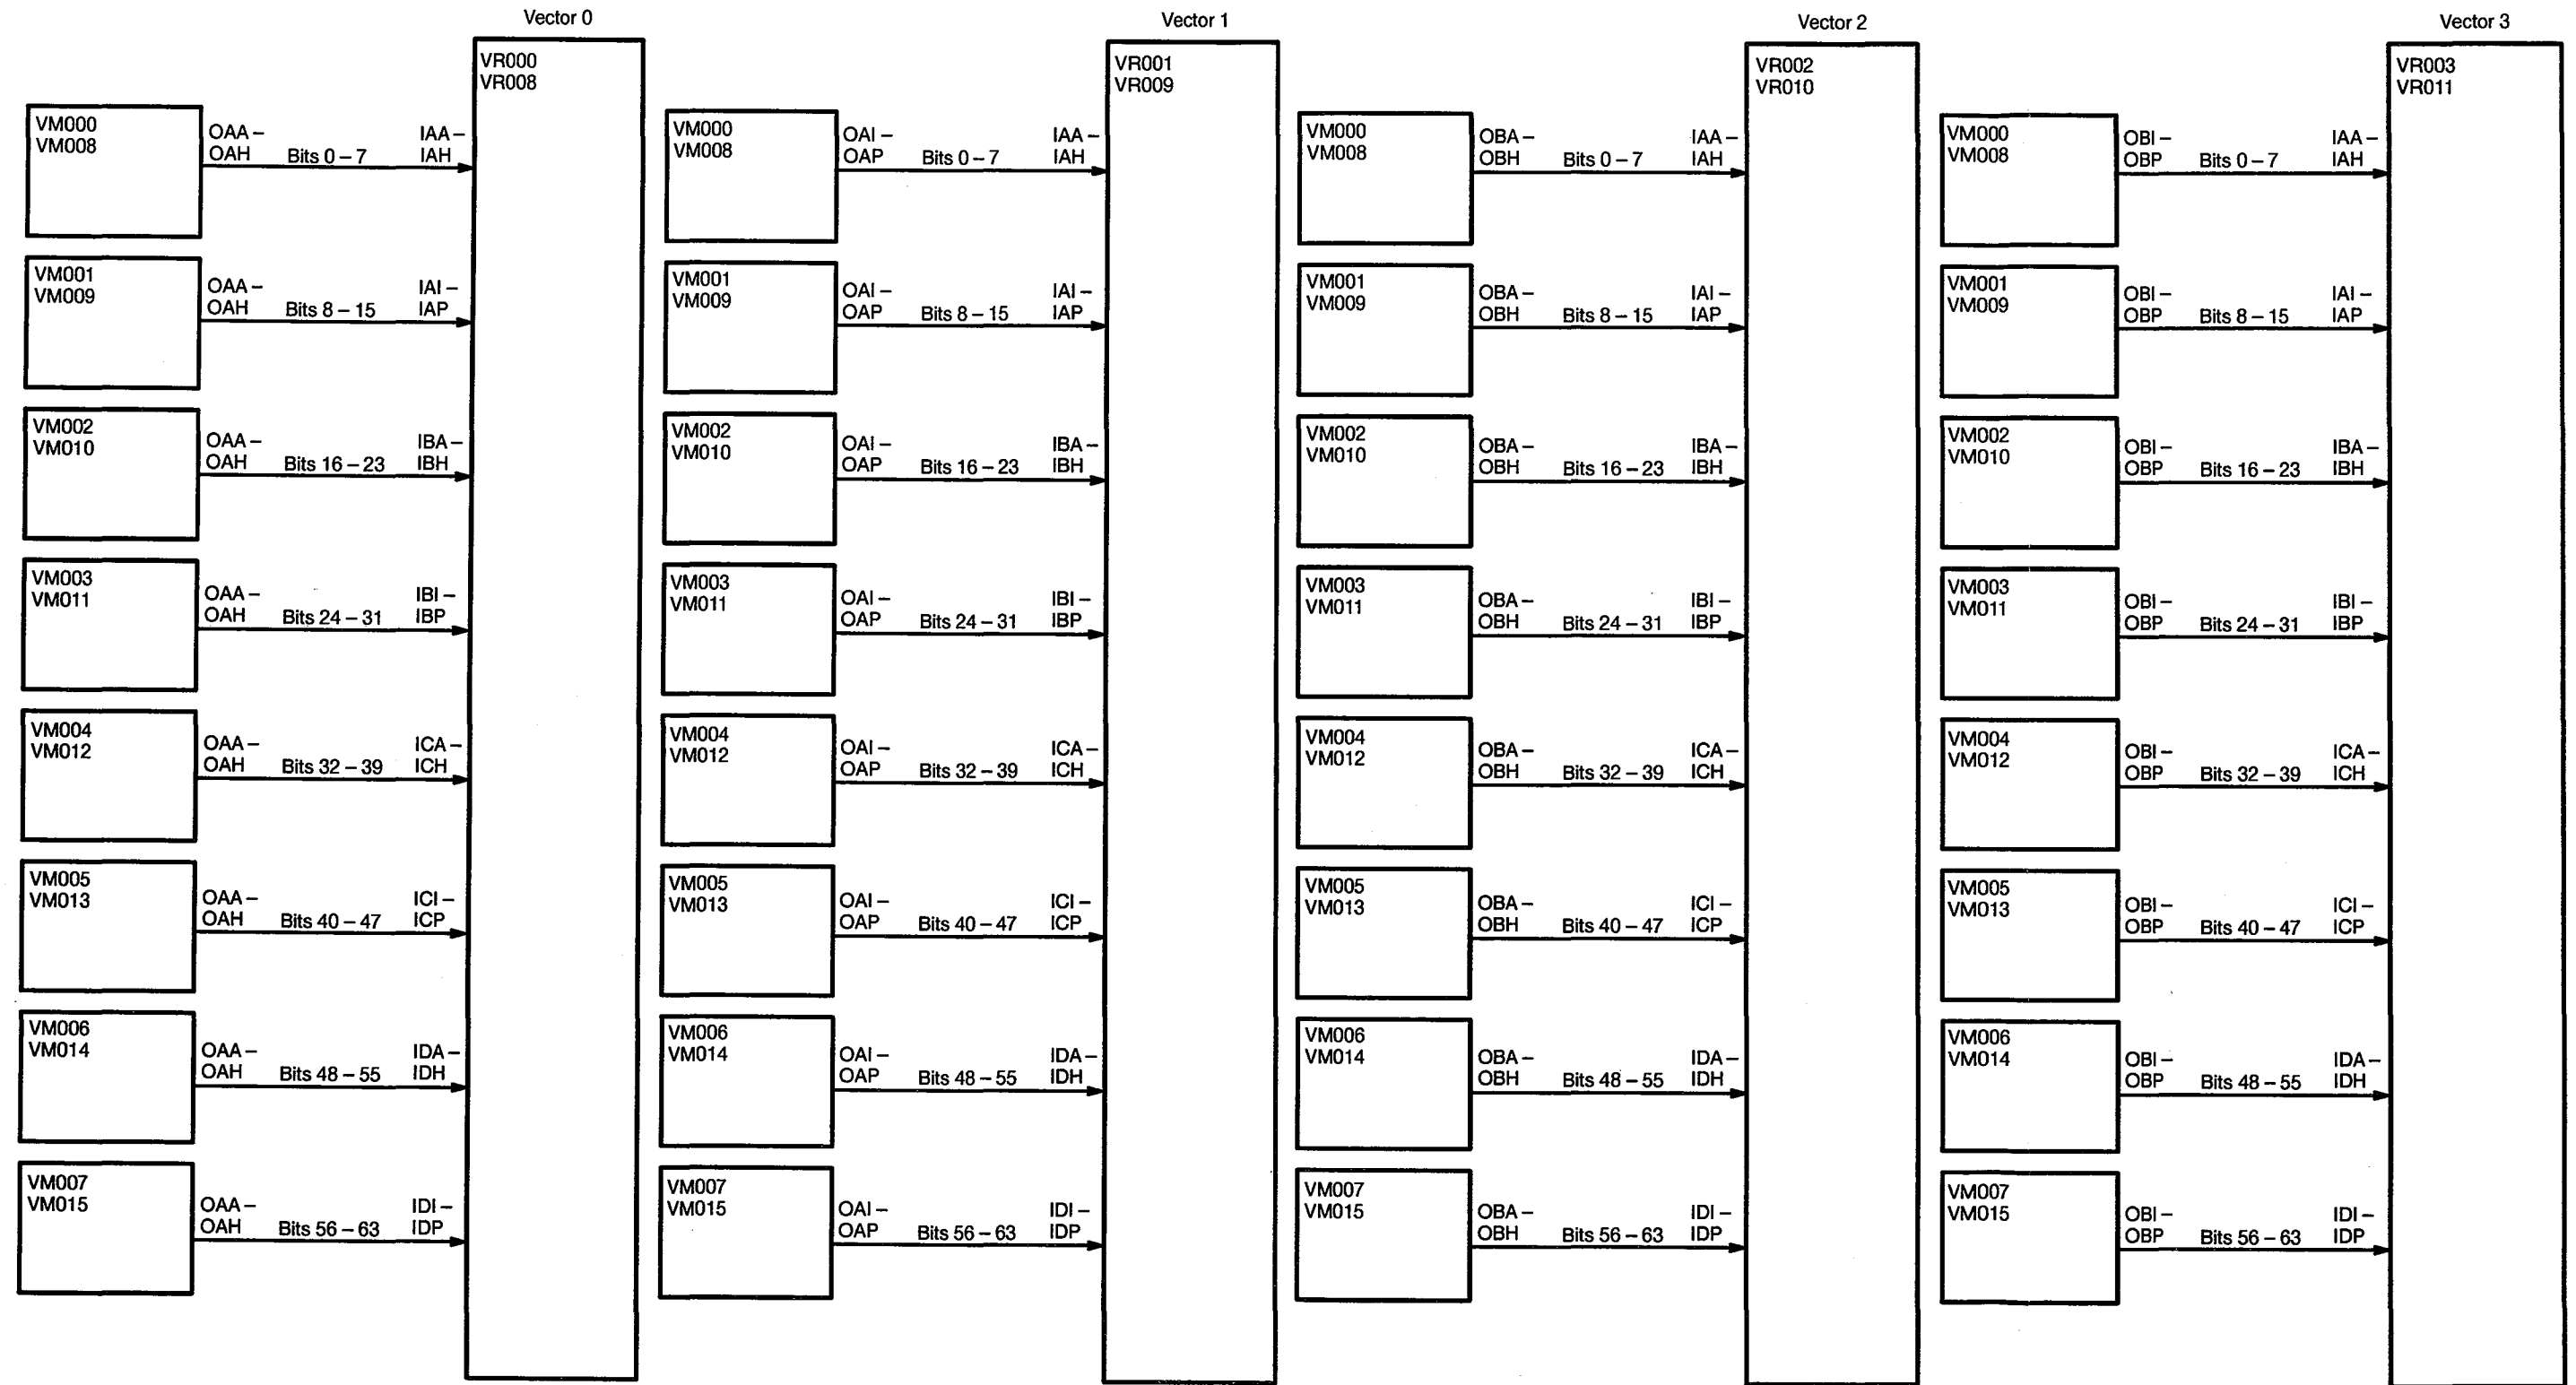

Figure 41. Vectors 0 through 3 Pipe 0/1 Write Data Path
- Figure 41 – vectors 0 through 3 pipe 0/1 write data path